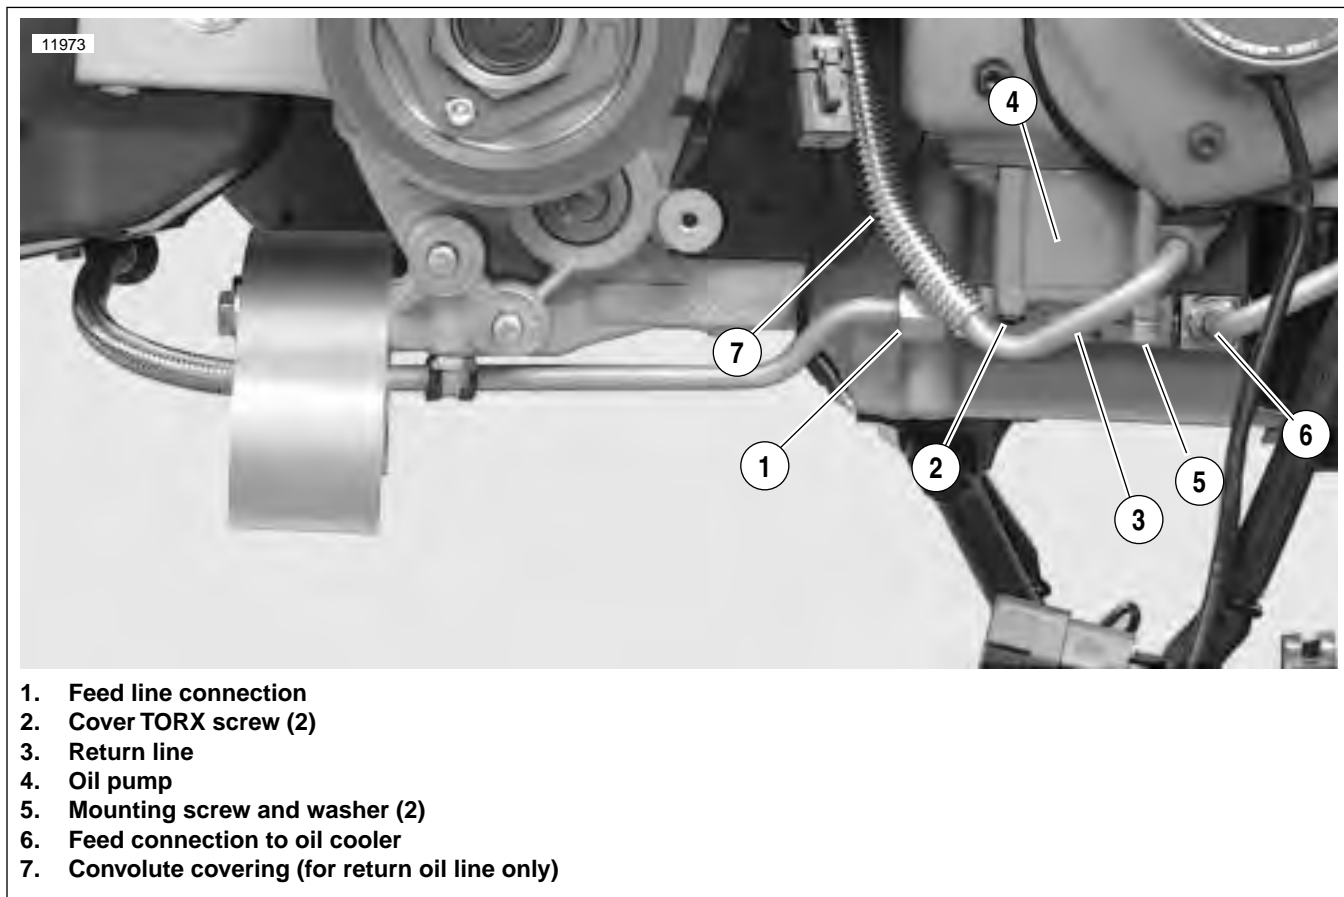

Figure 3-121. Oil Pump Hardware
4. See Figure 3-121. Disconnect feed line connections (1, 6) on both sides of the oil pump.
5. Detach return line connection (3).
6. Carefully remove mounting screws (5) and washers only. Pump will drop with screws removed. Discard mounting gasket.
7. Remove cover TORX screws (2). Lift cover off body.
10. See Figure 3-121. Attach return line connection.